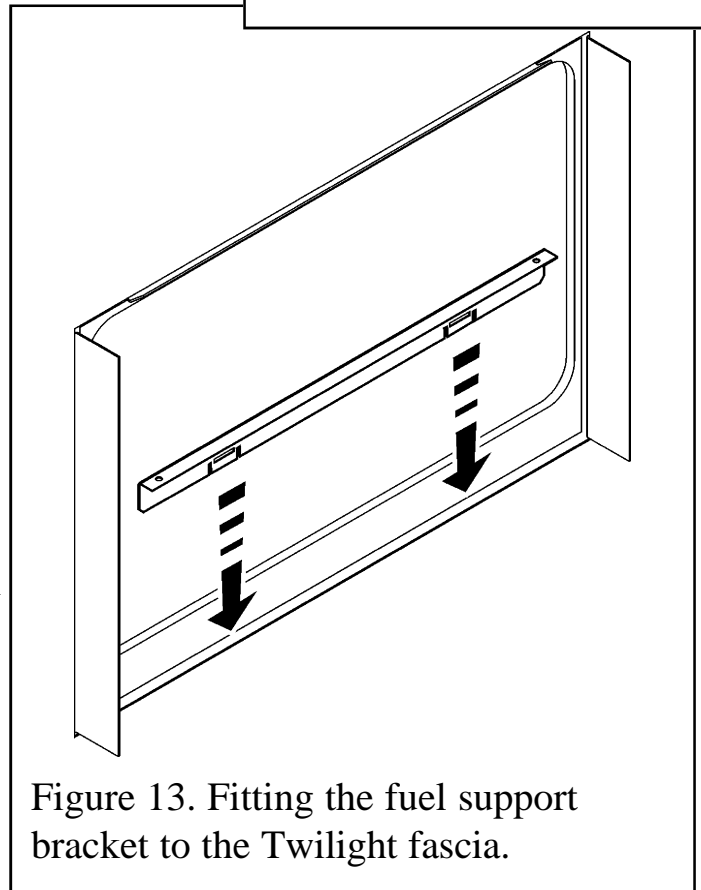

Figure 13. Fitting the fuel support bracket to the Twilight fascia.
1. There is a fuel bed support supplied with the Twilight heater. Slip this between the glass and metal panel on the rear of the fascia opening as shown in figure 13.